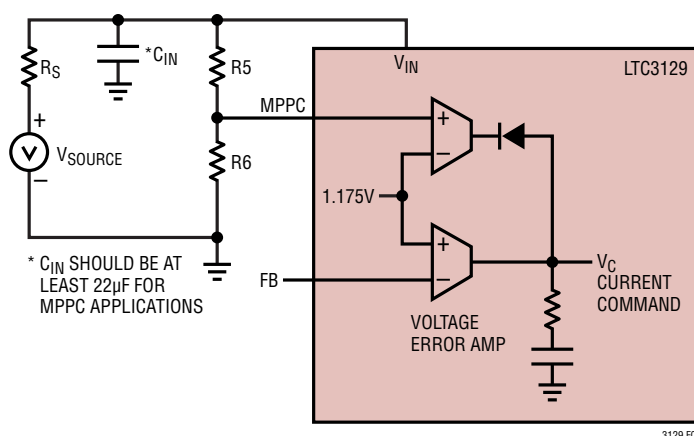

Figure 3. MPPC Amplifier with External Resistor Divider
**MPPC (Pin 5/Pin 3):** Maximum Power Point Control Programming Pin. Connect this pin to a resistor divider from VIN to ground to enable the MPPC functionality. If the VOUT load is greater than what the power source can provide, the MPPC will reduce the inductor current to regulate VIN to a voltage determined by:  $V_{IN} = 1.175V \cdot [1 + (R5/R6)]$  (see Figure 3). By setting the VIN regulation voltage appropriately, maximum power transfer from the limited source is assured. Note this pin is very noise sensitive, therefore minimize trace length and stray capacitance. Please refer to the Applications Information section for more detail on programming the MPPC for different sources. If this function is not needed, tie the pin to VCC.
the commanded inductor current in order to maintain a minimum input voltage when using high resistance sources, such as photovoltaic panels, so as to maximize input power transfer and prevent  $V_{IN}$  from dropping too low under load. Referring to Figure 3, the MPPC pin is internally connected to the non-inverting input of a  $g_m$  amplifier, whose inverting input is connected to the 1.175V reference. If the voltage at MPPC, using the external voltage divider, falls below the reference voltage, the output of the amplifier pulls the internal  $V_C$  node low. This reduces the commanded average inductor current so as to reduce the input current and regulate  $V_{IN}$  to the programmed minimum voltage, as given by:
As discussed in the previous section, the LTC3129 includes an MPPC function to optimize performance when operating from voltage sources with relatively high source resistance. Using an external voltage divider from  $V_{IN}$ , the MPPC function takes control of the average inductor current when necessary to maintain a minimum input voltage, as programmed by the user. Referring to Figure 3: